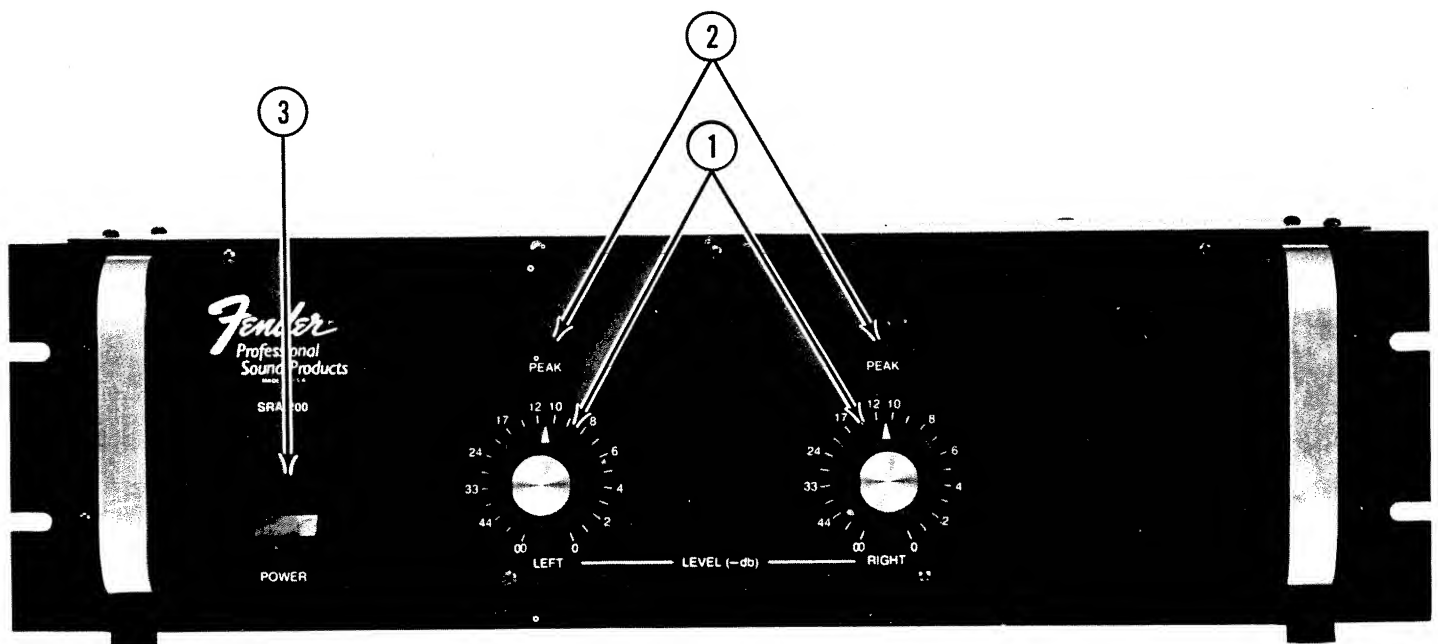
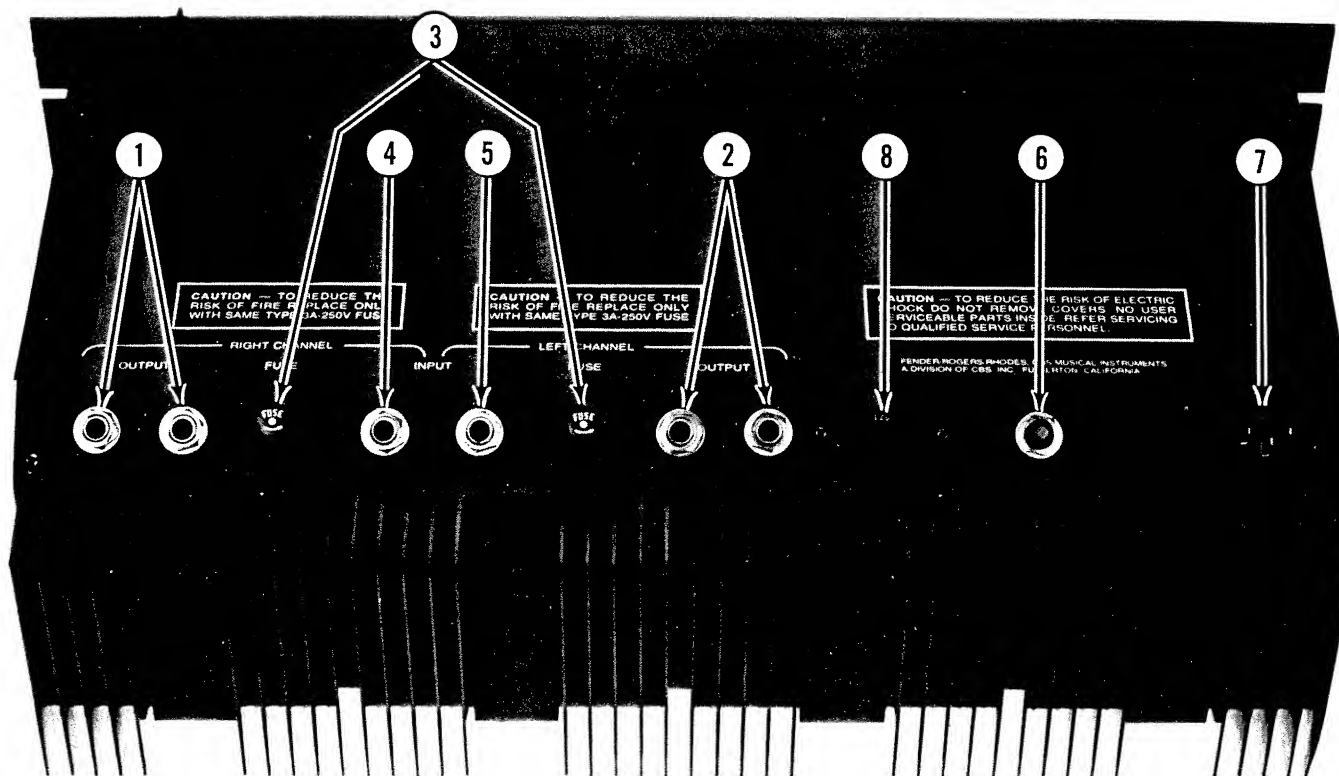

FIGURE 1 — Front Panel
FIGURE 2 — Rear Panel
Input Attenuators (Fig. 1 - Item 1)
LED Peak Indicators (Fig. 1 - Item 2)
Power Switch (Fig. 1 - Item 3)
Right Channel Output Jacks (Fig. 2 - Item 1)
Left Channel Output Jacks (Fig. 2 - Item 2)
Fuses (Fig. 2 - Item 3)
Right Channel Input (Fig. 2 - Item 4)
Left Channel Input (Fig. 2 - Item 5)
Circuit Breaker (Fig. 2 - Item 6)
Line Cord Receptacle (Fig. 2 - Item 7)
Voltage Selector Switch (Fig. 2 - Item 8) (Export version only)
Always turn OFF the power switch (Figure 1 - Item 3) before making line voltage changes. Selection should be made only to the proper AC line voltage for your area.
3. Set both channel input attenuators (Fig. 1 - Item 1) to their minimum level position (∞).
4. Plug the power cord (supplied) into the line cord receptacle located on the rear panel (Fig. 2 - Item 7). Do NOT remove the grounding prong on the AC plug, it prevents hum and possible shock. If necessary, use a three-prong to two-prong adapter.
5. Turn the power switch on (Fig. 1 - Item 3). The switch's internal lamp will light up. If it does not, check the power cord connection and the circuit breaker (Fig. 2 - Item 6).
6. Adjust the volume level with the channel input attenuators. Maximum permissible volume is reached when the LED peak indicators (Fig. 1 - Item 2) begin to flicker. Beyond this point, audible distortion and blown fuses may result.